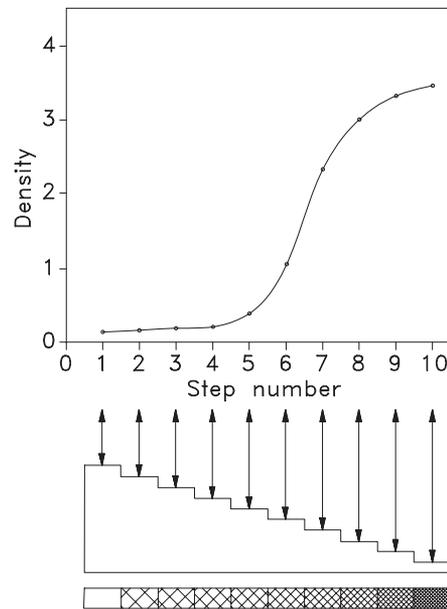

Fig A-1. Typical characteristic graph, showing relationship of density to step number
- Plot a graph of step numbers on the horizontal axis against densities on the vertical axis and join up the dots. (See Fig A-1).